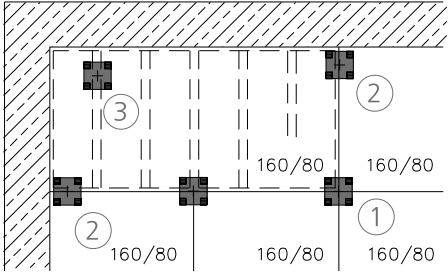

Fig. 9.2
- at the joint of two panels located at the slab edge, ② (below the longitudinal section) (Figures 9.2 and 9.4)